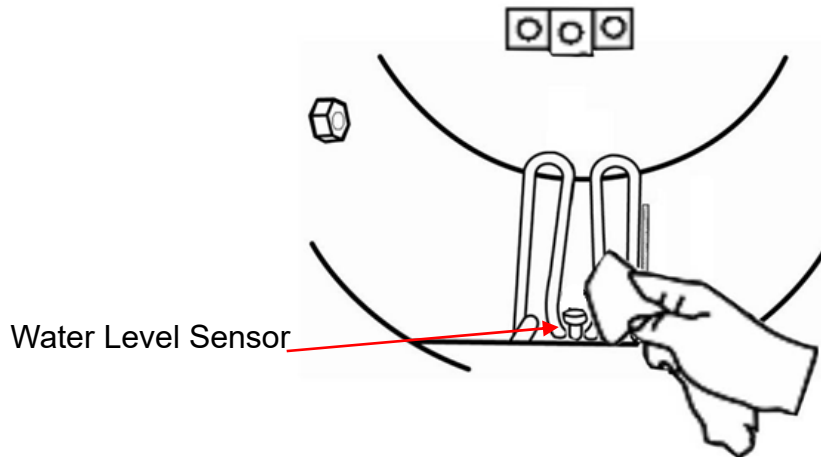

Figure 173
- Use the non-corrosive cleaner and stiff bristled brush or sponge to clean the water level sensor at the rear of the chamber as shown in Figure 173.